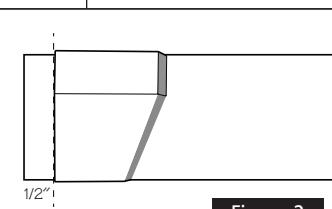

Figure 2
- 2 Stand one leg on a flat surface oriented as shown in Figure 2. Position the toe kick overlay behind the leg and aligned with your pencil line. (Standing the leg and toe kick overlay in an upright position on a flat surface ensures that they are flush at the bottom.)